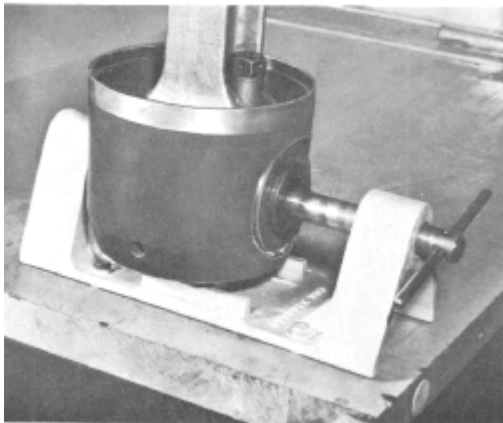

Fig. 5-16 - Carrier In Holding Fixture
16. Place the carrier assembly in the carrier holding fixture, Fig. 5-16, and secure it with the T-handle.